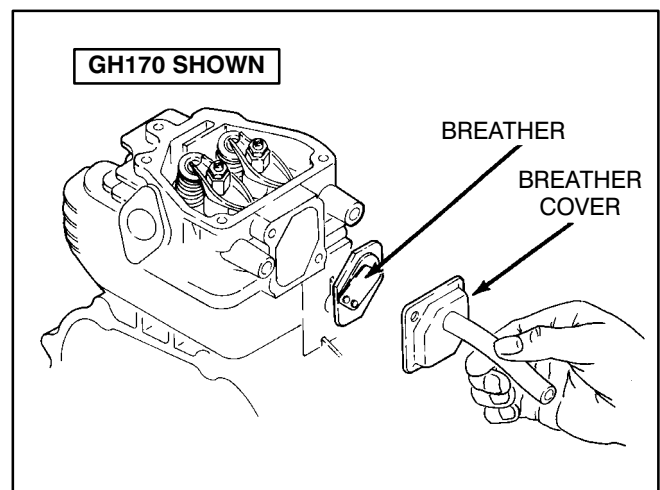

FIGURE 9-1. HEAD COVER AND BREATHER REMOVAL
1. Remove head cover mounting bolts and pull off head cover. See Figure 9-1.